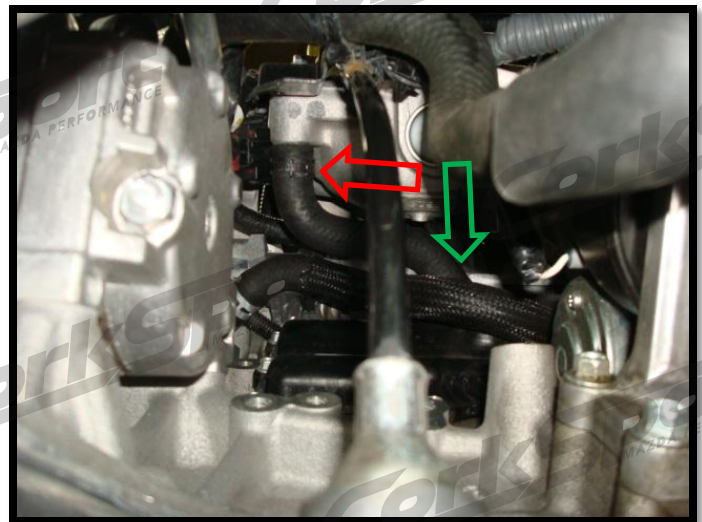

Figure 2a
- a) To locate the PCV hose, look up by the dipstick that is located behind the AC compressor (see hose in **Figure 2a**).
- g) Attach one end of the supplied silicon hose with a clamp to the factory PCV valve (shown in **Figure 2a** with **Green Arrow**). Tighten the clamp but make sure not over tighten because the factory valve is made of plastic and can crack.
- To locate the PCV hose, look up by the dipstick that is located behind the AC compressor. (Figure 2a identifies the hose. The red arrow shows the end that goes into the intake manifold and the green arrow shows the end that goes into the engine).
- g) Attach one end of the supplied silicon hose with a clamp to the factory PCV valve (shown in **Figure 2a** with **green arrow**). Tighten the clamp but make sure not over tighten because the factory valve is made of plastic and can crack.